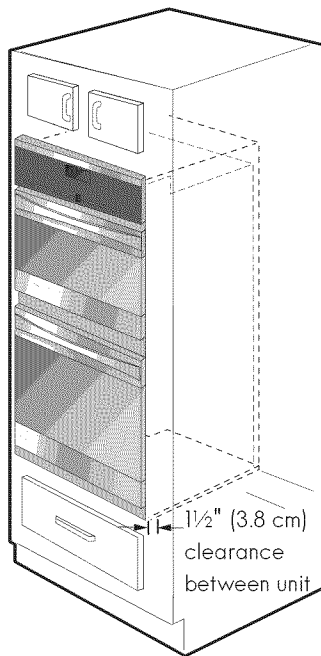

Figure 5
- 5 Insert the unit into the cabinet opening. Slide unit inward leaving 1½" (3.8 cm) clearance between the unit and front of cabinet (see Figure 5).